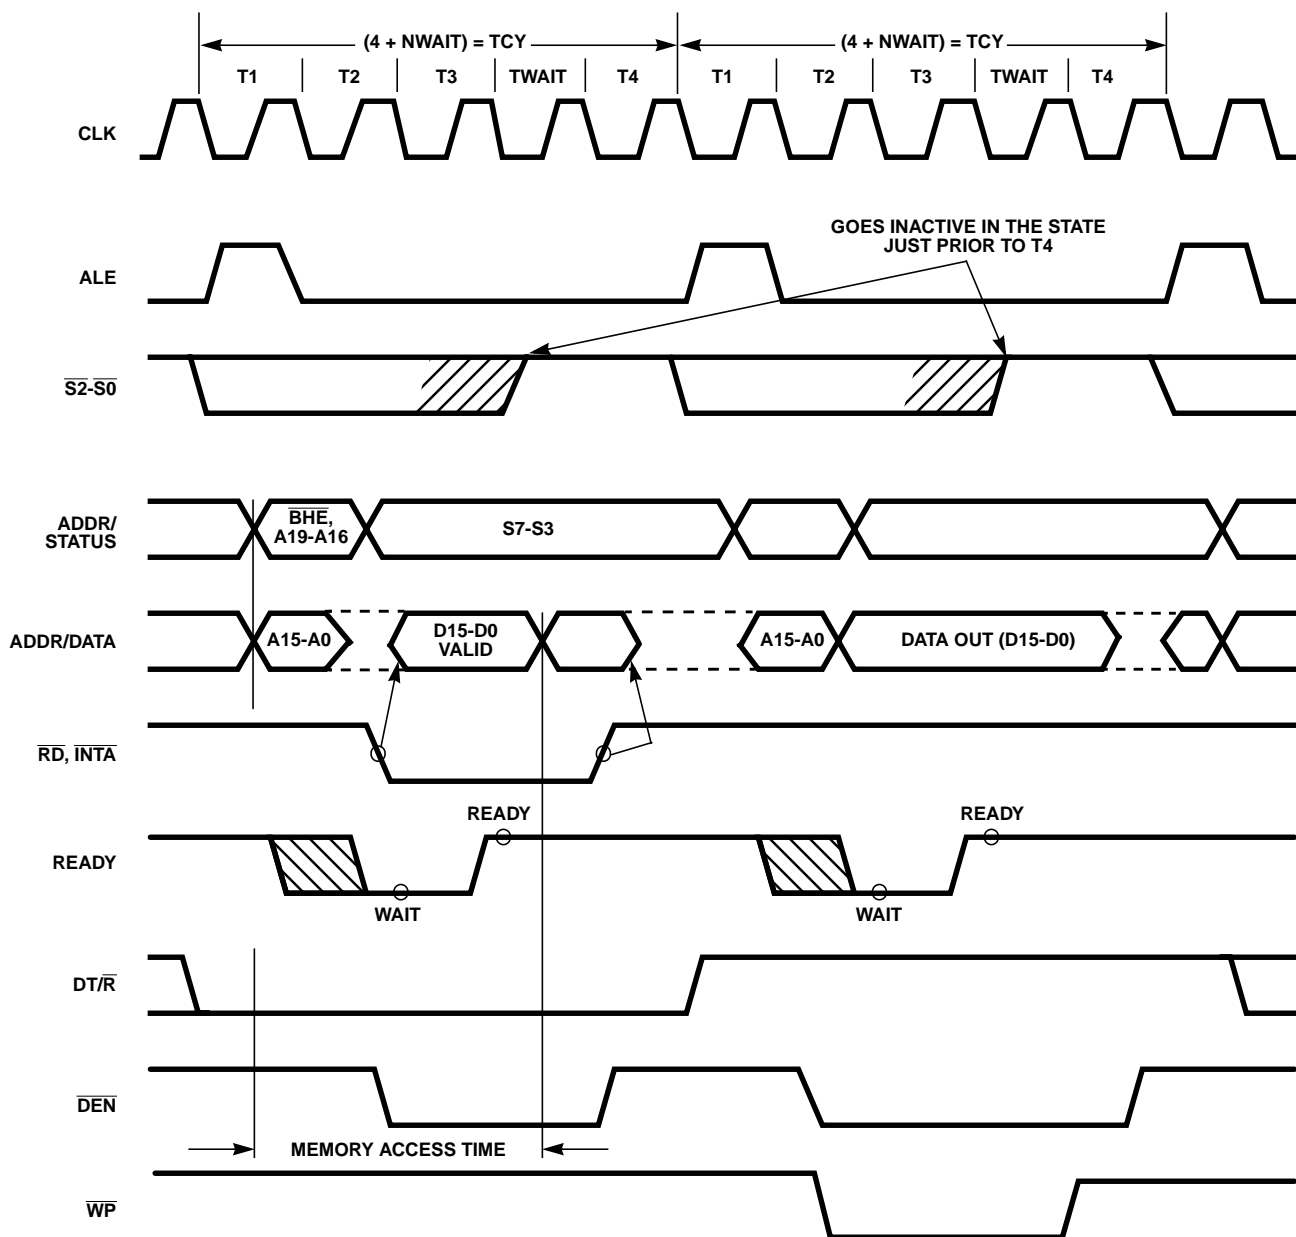

FIGURE 11. BASIC SYSTEM TIMING
Each processor bus cycle consists of at least four CLK cycles. These are referred to as T1, T2, T3 and T4 (see Figure 11). The address is emitted from the processor during T1 and data transfer occurs on the bus during T3 and T4. T2 is used primarily for changing the direction of the bus during read operations. In the event that a "NOT READY" indication is given by the addressed device, "Wait" states (TW) are inserted between T3 and T4. Each inserted wait state is the same duration as a CLK cycle. Idle periods occur between HS-80C86RH driven bus cycles whenever the processor performs internal processing.
Typical system configurations for the processor operating in minimum mode and in maximum mode are shown in Figures 14A and 14B, respectively. In minimum mode, the MN/ \overline{MX} pin is strapped to VDD and the processor emits bus control signals (e.g. \overline{RD} , \overline{WR} , etc.) directly. In maximum mode, the MN/ \overline{MX} pin is strapped to GND and the processor emits coded status information which the 82C88 bus controller used to generate Multibus™ compatible bus control signals. Figure 11 shows the signal timing relationships.